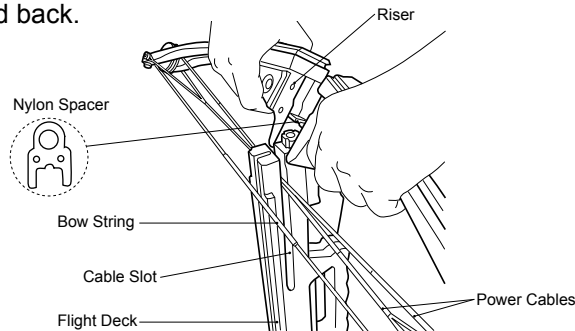

Figure 1
- 11 Apply a generous amount of rail/string lubricant to the bow string and power cables. Rub in with your fingers or small piece of leather to saturate the strands. Be sure nylon spacer is attached to riser before installing the riser to stock assembly. **Note: nylon spacer is attached to the riser from factory.** Slightly rotate the bow unit to start power cables down into the cable slot of the stock assembly (See Figure 1). Once started the bow unit can be rotated back.